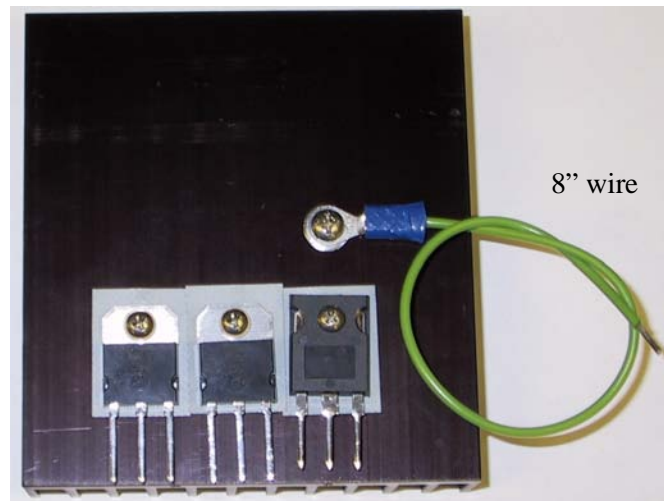
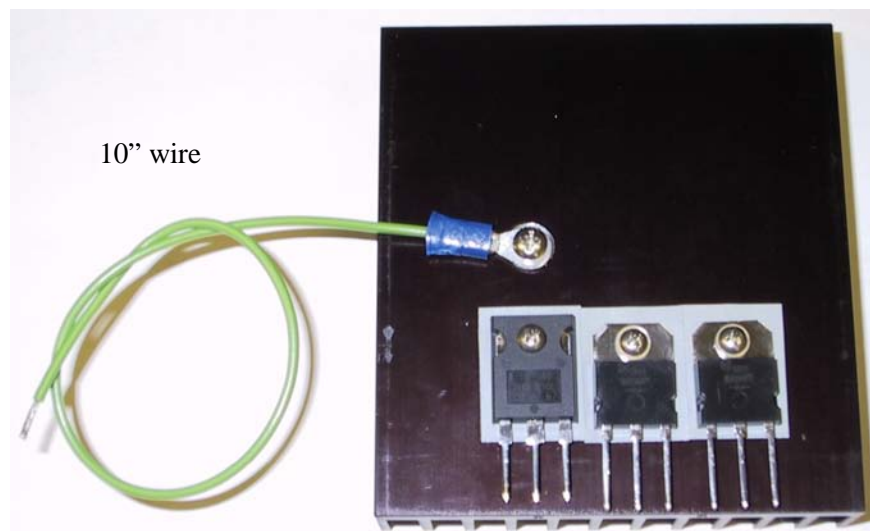

Figure 10: Left side heatsink
Figure 11: Right side heatsink
13. Fully assembled heatsinks are shown in Figure 10 and Figure 11.